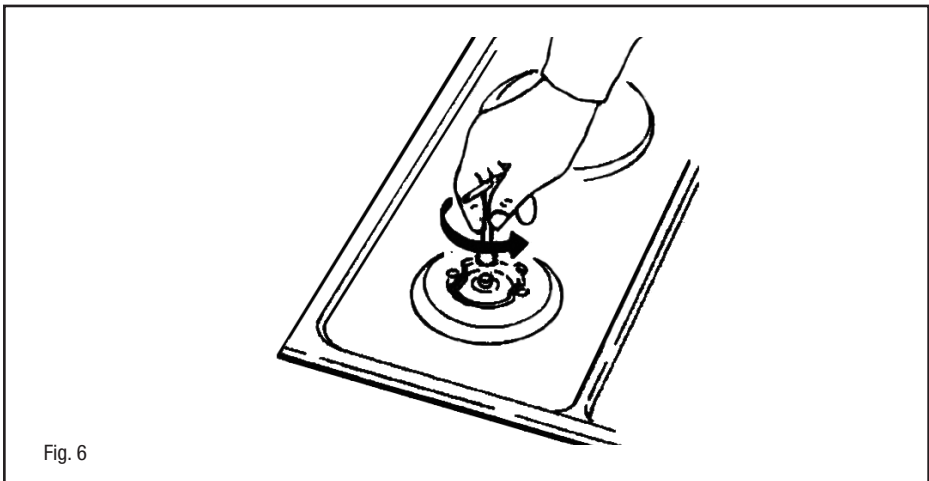

Fig. 6
(Fig. 6) Should the appliance be pre-set for a different type of gas than that available, proceed as follows:
- replace the injectors (Fig. 6) with the corresponding type of gas to be used (see table “Injectors characteristics”).